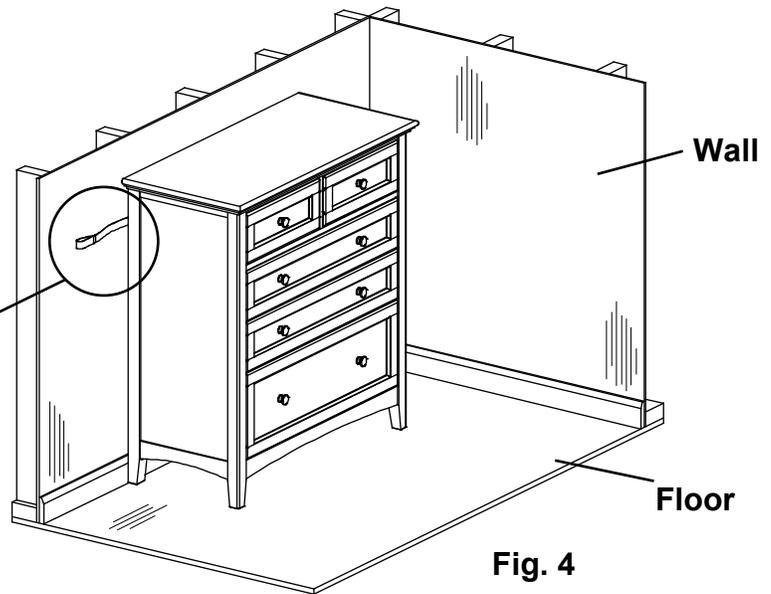

Fig. 4
4. Place your furniture piece close to the wall. Reach behind and pull the loop end of the Long Strap (C) toward the end of the furniture piece until the strap is tight. Once you have enough length of the strap drawn through to reach past the end of the furniture piece shift the piece as close to the wall as possible and retighten the strap. See Figures 4 and 4a.